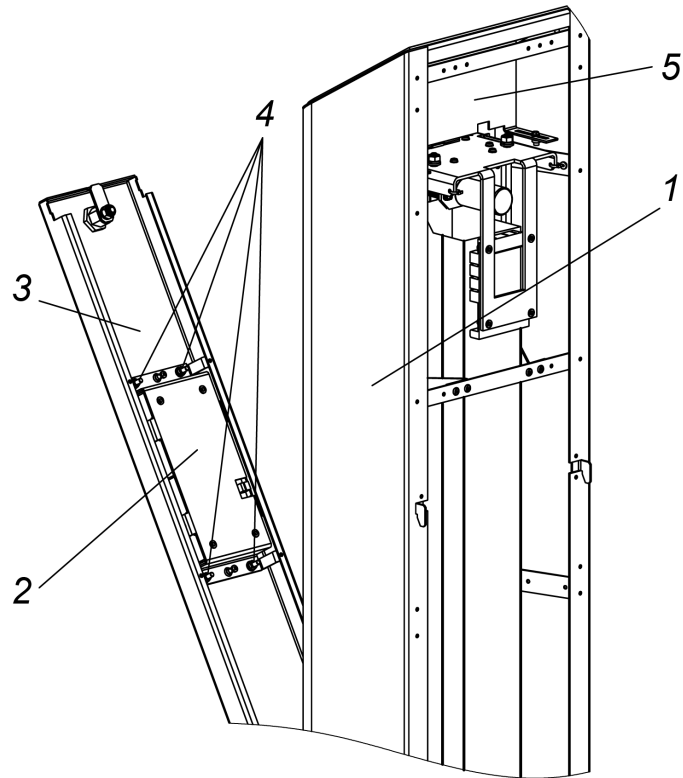

Figure 18. Constant indication block (side module with the built-in card capture reader)
- for the side module with the card capture reader (Fig. 18):
- open the container cover lock with its key (3, Fig. 18) and pull the cover by the key toward you until it stops,
- remove the indication block (2, Fig. 18) by unscrewing 4 nuts with washers (4, Fig. 18).
- Remove the reader bracket (5, Fig. 18) by unscrewing the 2 screws.